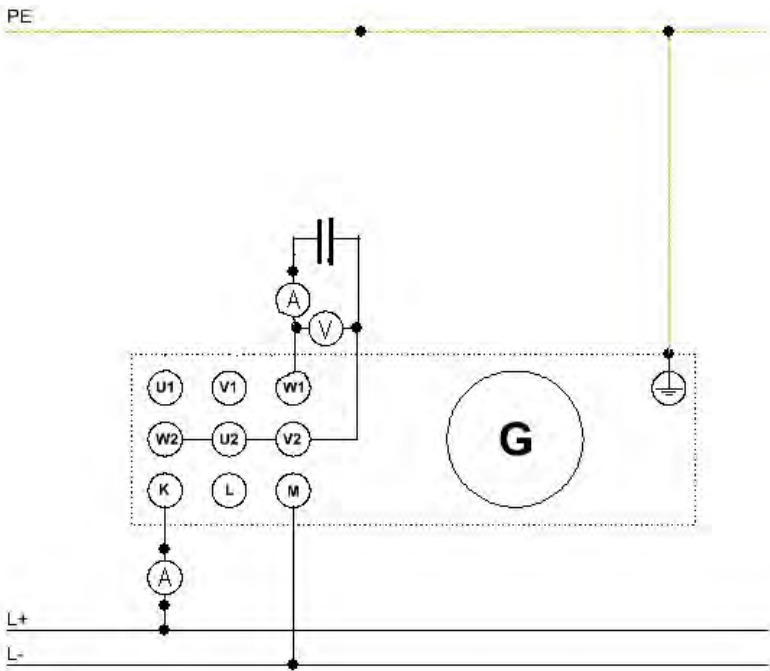

Figure 7:
17. Modify the circuit as indicated in Figure 7.